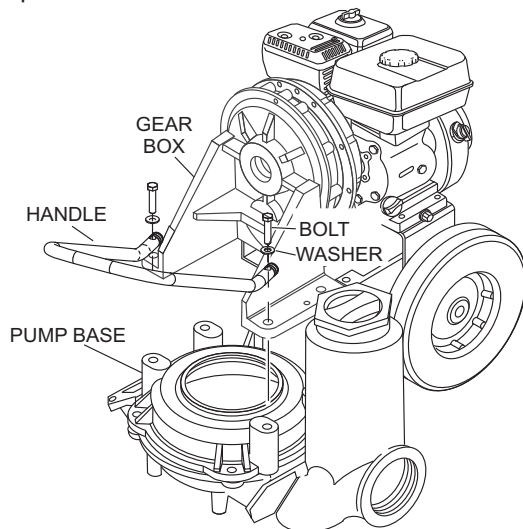

Figure 6. Handle Installation
1. Remove the two front 1/2-13 hex screws fastening gearbox mounting feet to base as shown in Figure 6.